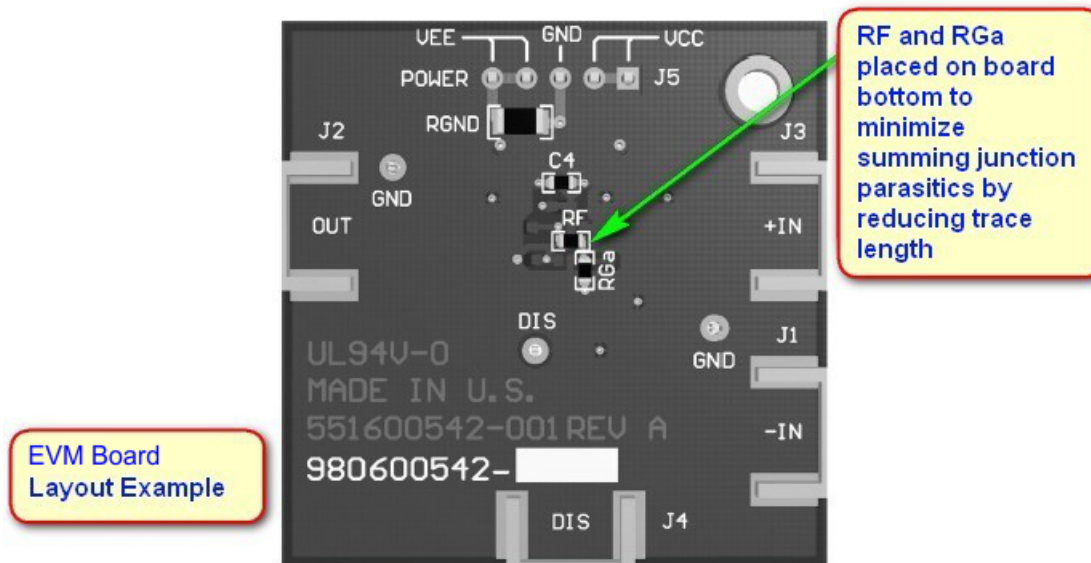

Figure 29. LMH6702 Evaluation Board Layer 2
- The input summing junction is very sensitive to parasitic capacitance. Connect any R_f and R_g elements into the summing junction with minimal trace length to the device pin side of the resistor, as shown in Figure 29. The other side of these elements can have more trace length if needed to the source or to ground.